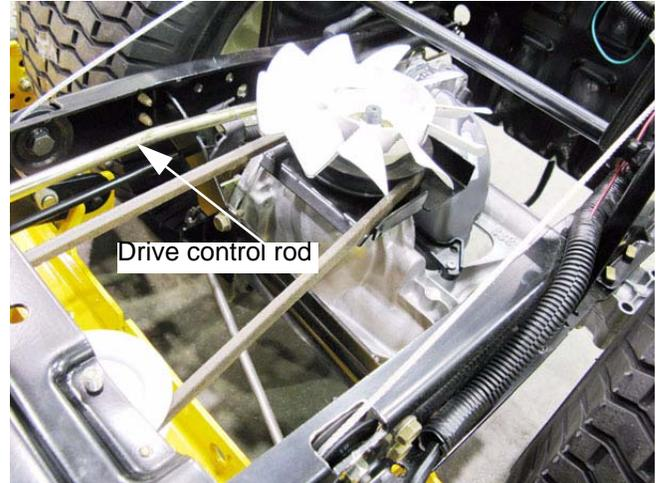

Figure 5.10
- The rod connecting the pedal bracket to the arm on the transaxle may be bent, changing its effective length. See Figure 5.10.